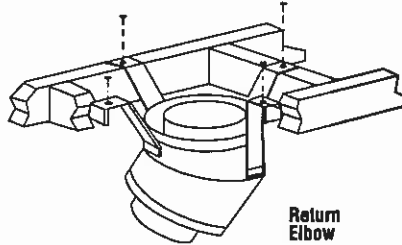

Figure 41
Step 5. Secure support straps to framing members by nailing under tension in sheer (Figure 41).